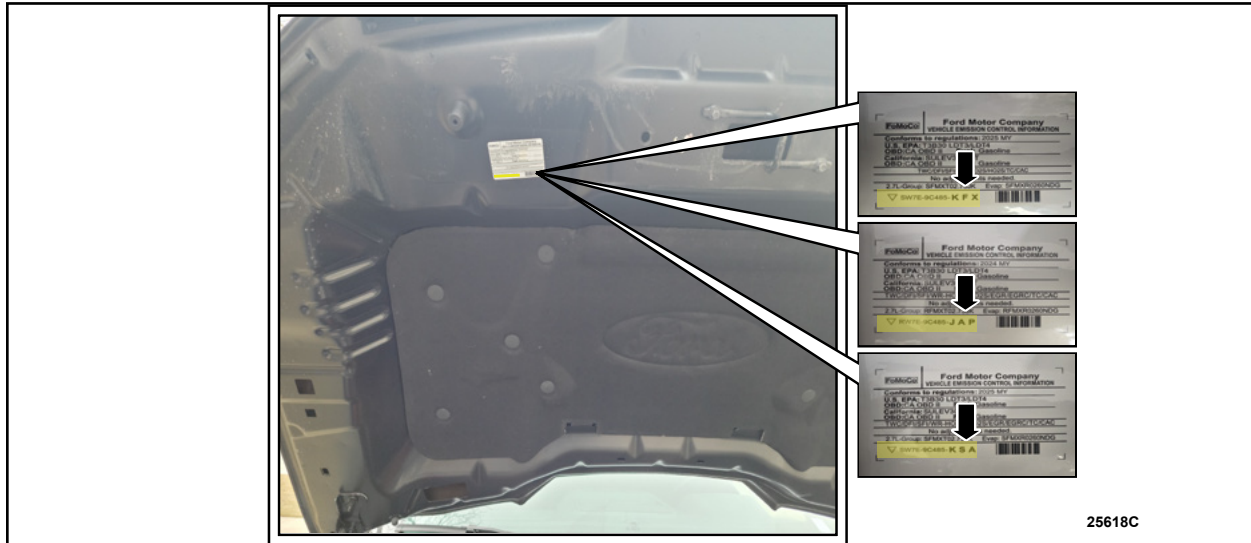

FIGURE 3
6. Inspect the old VECI label on the inside of the hood and locate the part number. See Figure 3.